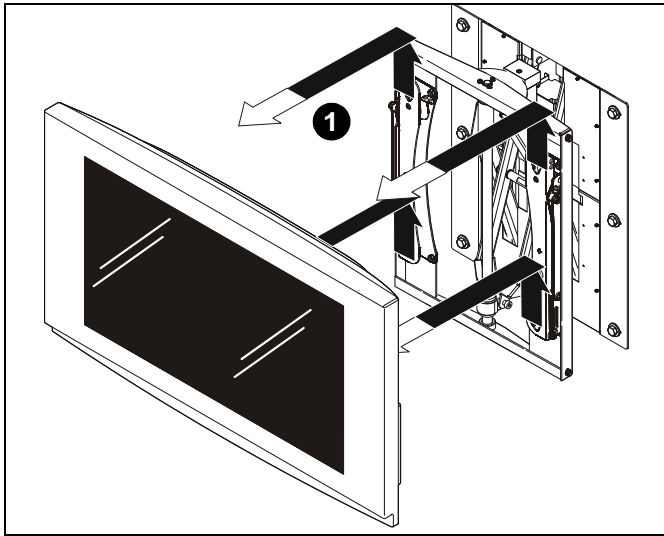

Figure 1
1. Lift display up and away from CM1 mount to remove display from mount. (See Figure 1)